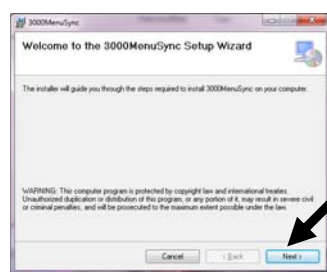

Figure 2
4. At the "Setup Wizard Welcome" screen click on Next (see Figure 2).